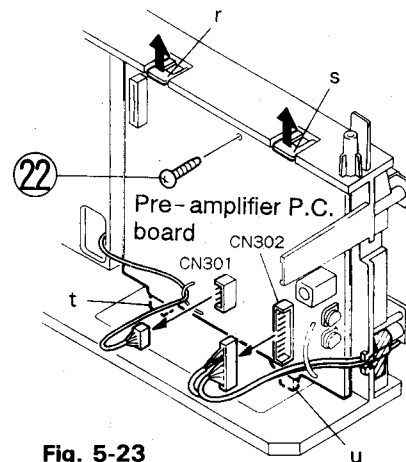

Fig. 5-23
■ How to Remove the Pre-amplifier P.C. Board (Refer to Fig. 5-23)
5. Remove the one screw (22) retaining the pre-amplifier P.C. board.